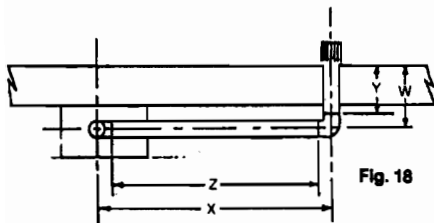

Fig. 18
5.5.24 Measure carefully the distance between the centre of the flue bend on then boiler to the centre of the hole through the wall (dimension X fig 18).
5.5.31 Ensure that the flue pipe runs parallel to the wall then carefully measure the distance from the outside face of the wall to the centre of the extra bend (dimension W fig 18).
- 5.5.23** Ensure when siting the flue hole position that the combined distances (Y&Z on fig 18) between the flue elbow on the boiler to the extra bend and from the face of the outside wall to the extra bend do not total more than